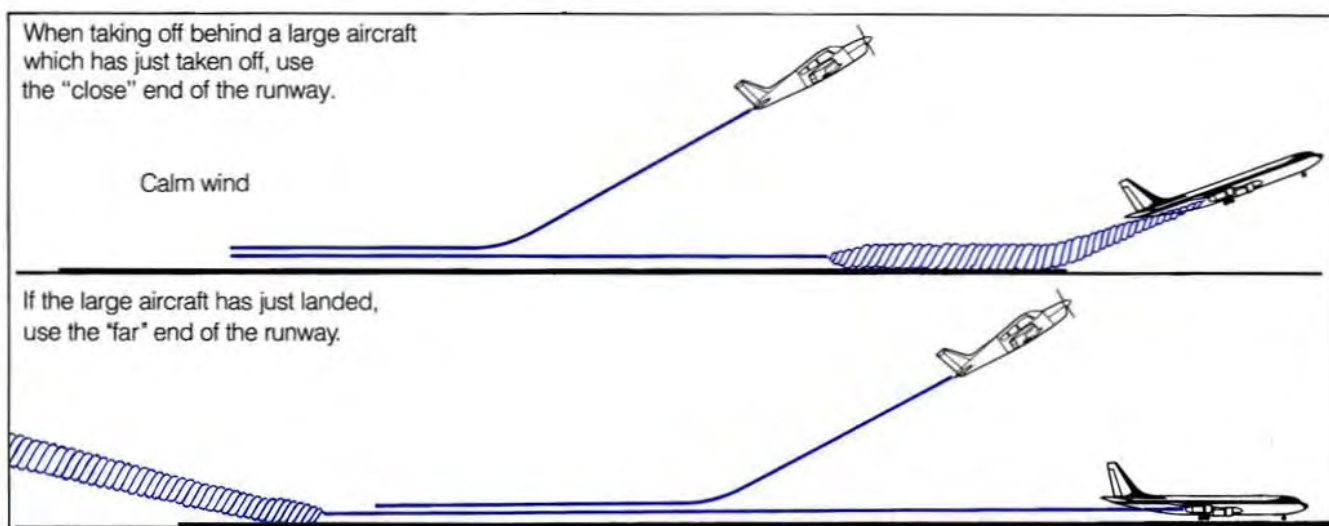

Figure 2-45 Wake Turbulence Avoidance Procedures
2. If following an aircraft that has just landed, by planning the take-off so as to become airborne beyond the point of touchdown of the preceding aircraft (Fig. 2-45).